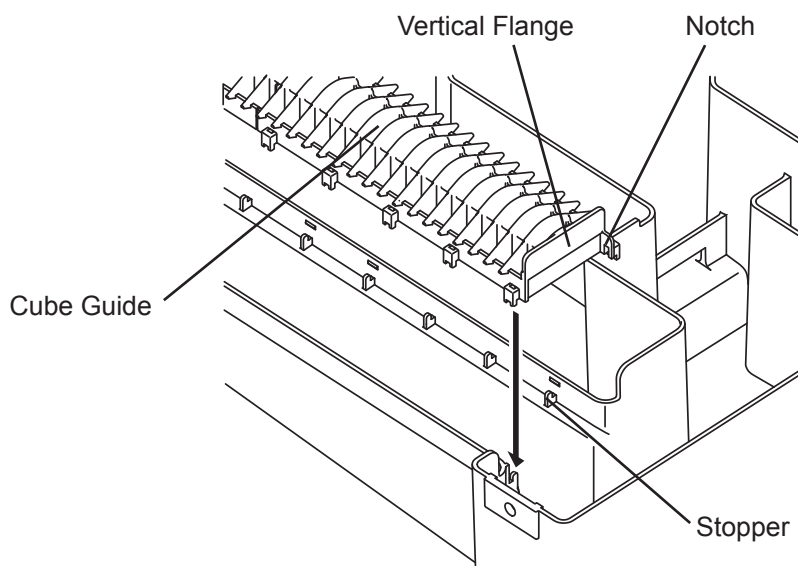

Fig. 17
- 15) Pull the Cube Guides (quantity varies depending on model) upward to remove them from the Water Tank. They are snapped in place. See Fig. 17.
- 17) Wash the Bin Control Switch, Water Tank, Float Switch, Cube Guide and Overflow Pipe by using a nylon scouring pad, brushes and the cleaning solution. In addition to the removed parts, also wash the bin liner and Bracket (L) (R) with the solution.